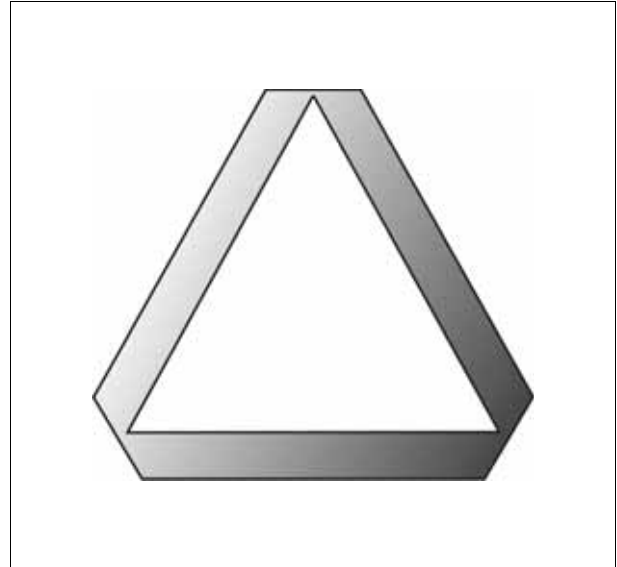

Fig. 6.
- Ensure that the tractor and implements are fitted with SMV warning triangles and other markings recommended to improve visibility when driving on roads (unless the regulations state otherwise) fig. 6.